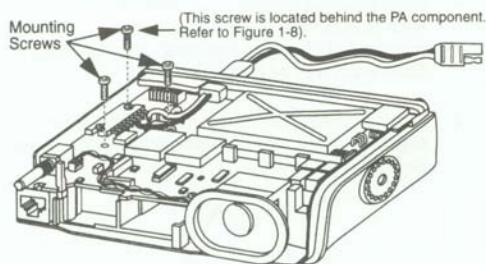

Figure 1-7. Location of Mounting Screws
2. Remove the three mounting screws from main board using a T10 Torx driver (Figure 1-7).